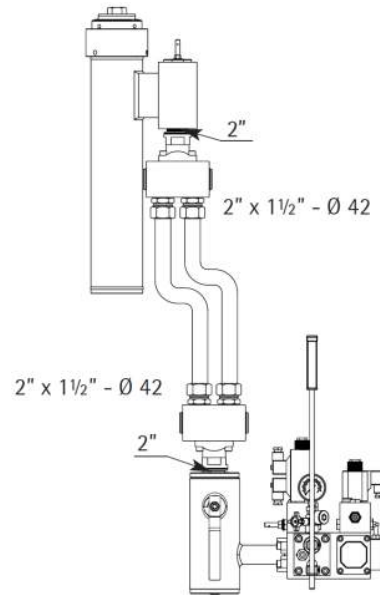

Figure 12 – Connection with two rigid pipes Ø 42
- With two parallel steel pipes, diameter 42 mm and two three – way fittings 1" fi x 2" x fi (see Figure 12).